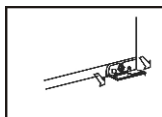

Fig. 1
- 1) Push out the outer cover (Fig. 1);